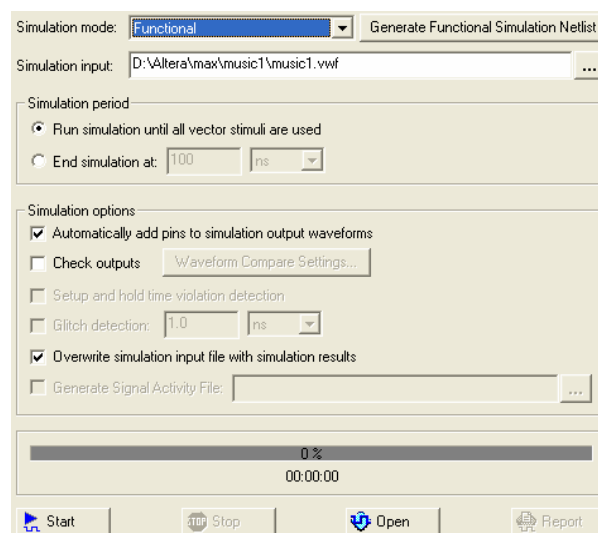

Figure 3.8: Simulator Tool popup window.
12. Now in the main menu, Tools → Simulator Tool is selected. The popup window will appear as shown in Figure 3.8.